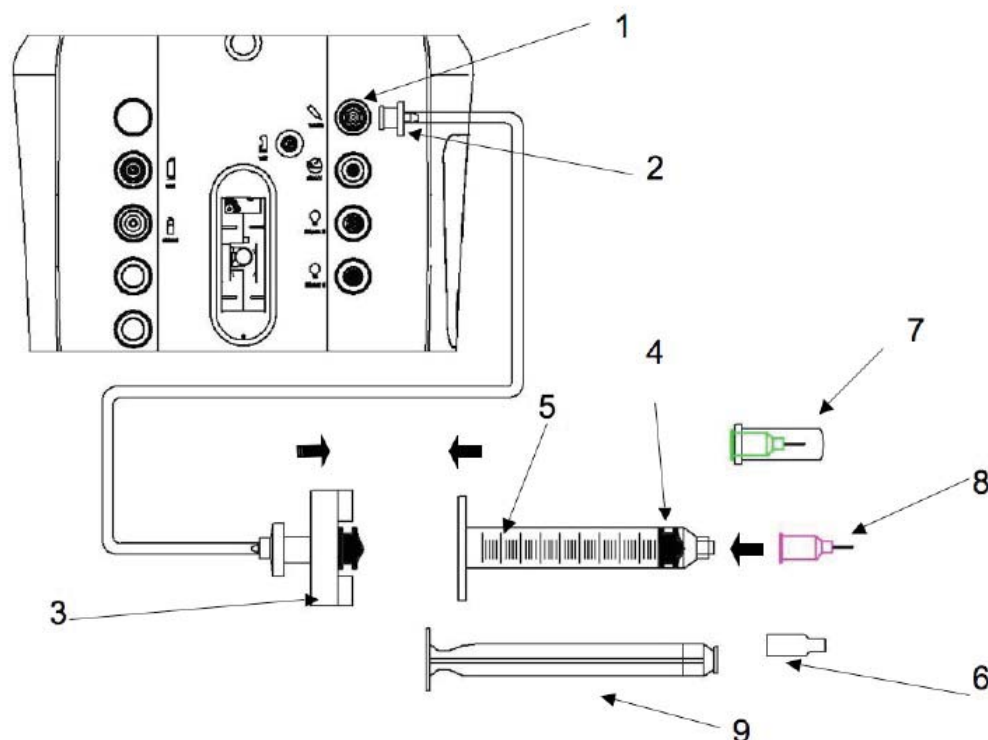

Figure 4.20. Viscous Fluid Extraction Setup.
3. Remove the syringe cap (item 6 of Figure 4.20). (Must be done before step 4.)
5. Connect the syringe coupler of the Viscous Fluid tubing to the empty syringe. Twist the coupler to lock it securely to the syringe. (Refer to Figure 4.20.)
7. Remove the cannula cover (8) before use.